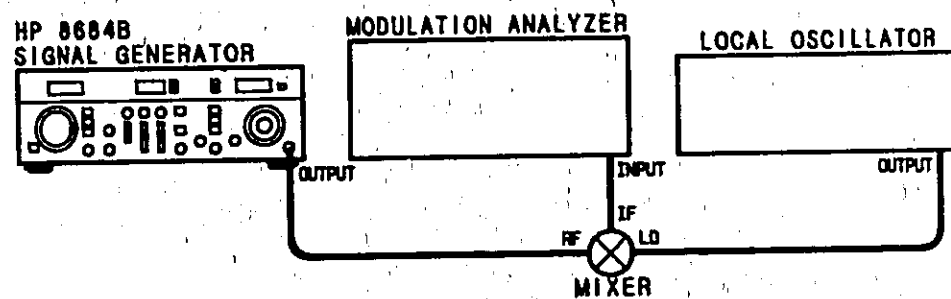

Figure 4-4. Residual FM Test Setup
- Connect equipment as shown in Figure 4-4. Set the output of the Signal Generator under test and the generator used as a local oscillator to approximately +10 dBm (the precise power level is not critical). Verify that nothing is connected to the modulation inputs, and that all modulation selectors are off.